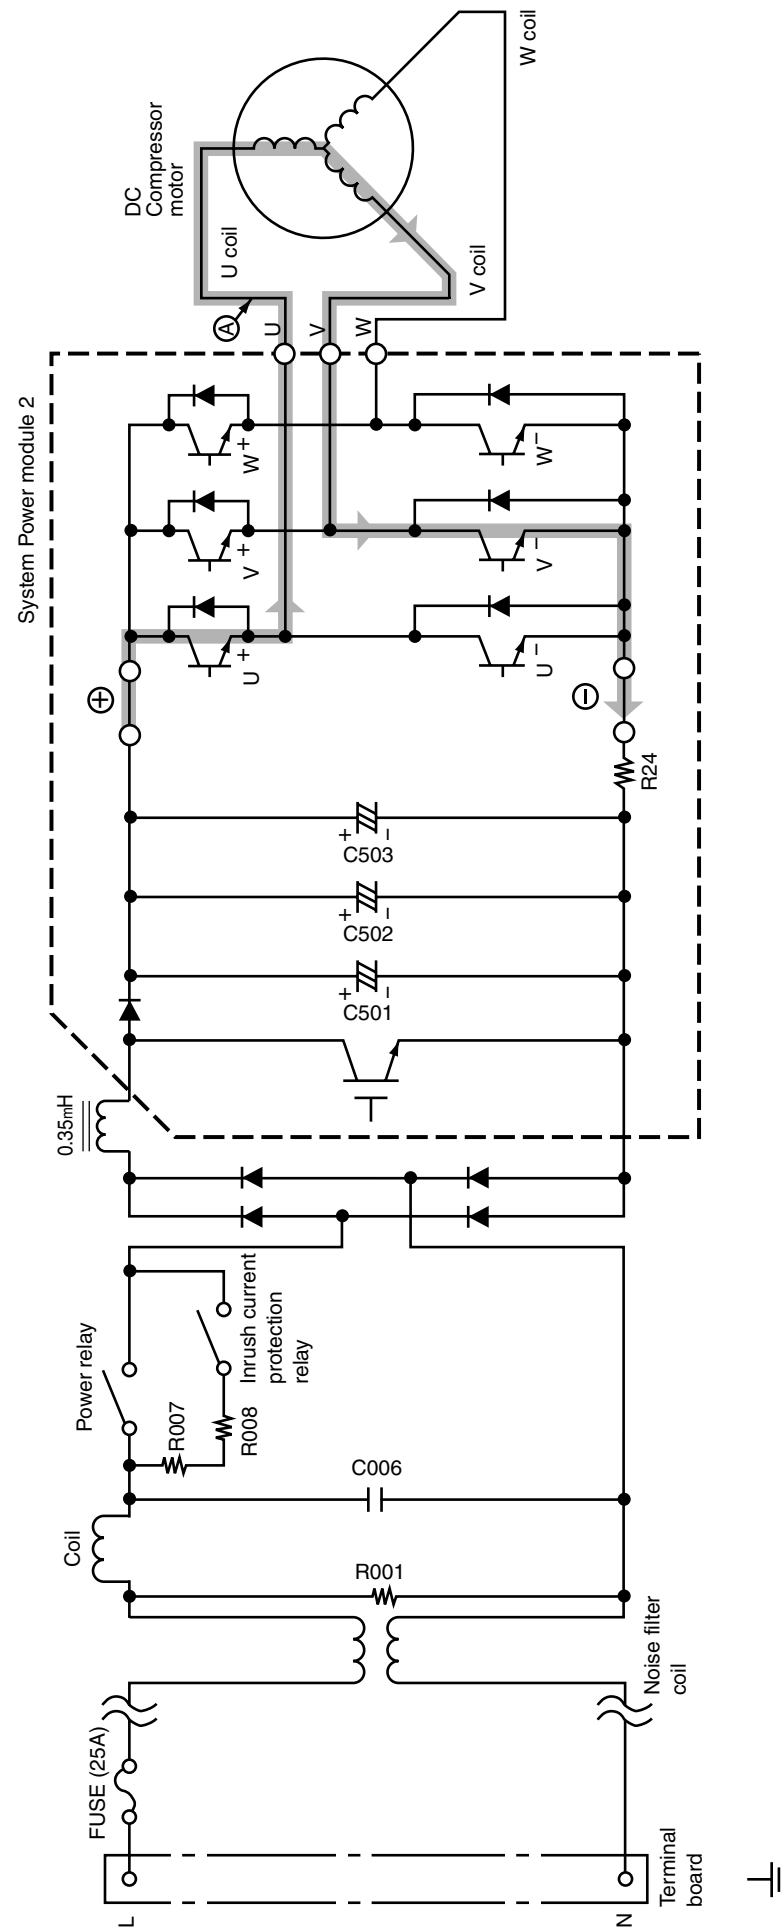
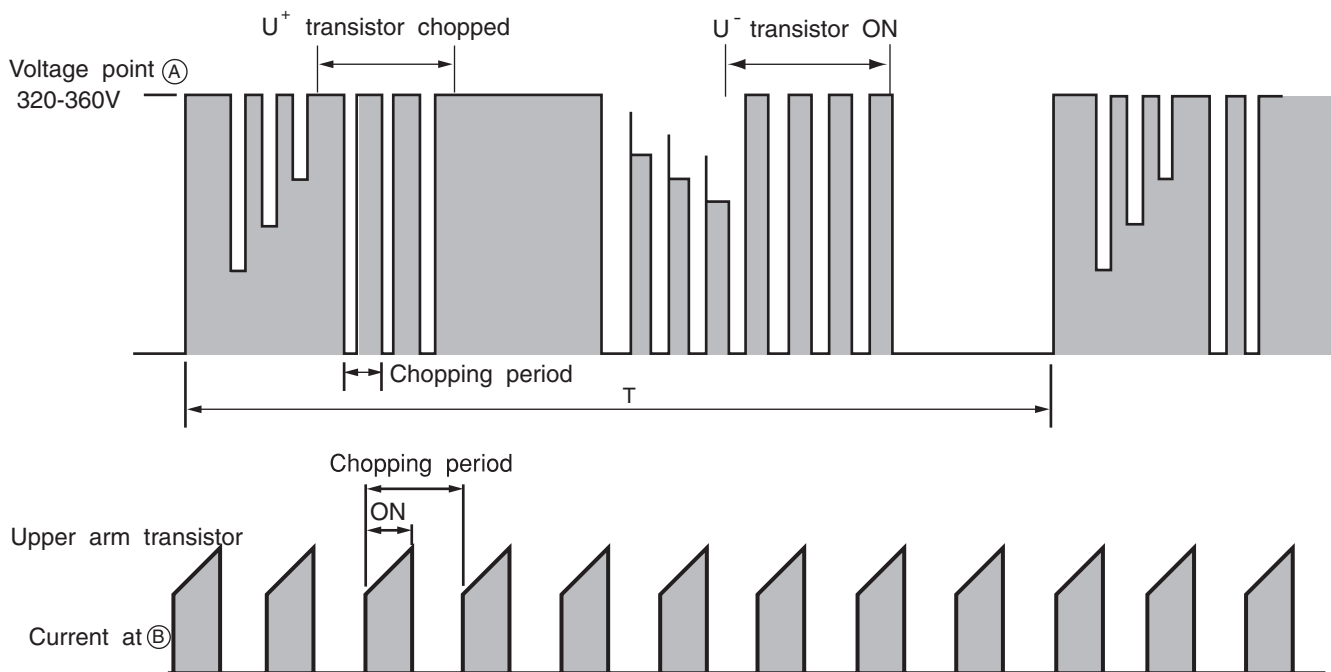

Fig. 3-1 Power module circuit (U+ is ON, V- is ON)
Fig. 3-3 Voltage waveform at each point
- Fig. 3-1 shows the system power module and its peripheral circuit. (Current ACT module and power module are combined into one unit.) The three transistors on the positive  $\oplus$  side are called the upper arm, and the three transistors on the negative  $\ominus$  side, the lower arm.
※ At point E: U+ is ON, V- is ON (circuit in Fig. 3-1)
- Fig. 3-3 shows voltage / current waveform at each point shown in Figs. 3-1 and 3-4. First half of upper arm is chopper, second half is ON, and first half of lower arm is chopper, second half is ON.
- When power is supplied U+ → U-, because of that U+ is chopped, current flows as shown below; ②
- (1) When U+ transistor is ON: U+ transistor → U coil → V coil → V- transistor → DC current detection resistor → Point ② (Fig. 3-1)
- Since current flows at point B only when U+ transistor and V- transistor is ON, the current waveform at point B becomes intermittent waveform as shown in Fig. 3-3. Since current at point B is approximately proportional to the input current of the air conditioner, input current is controlled by using DC current (Id) detection resistor.